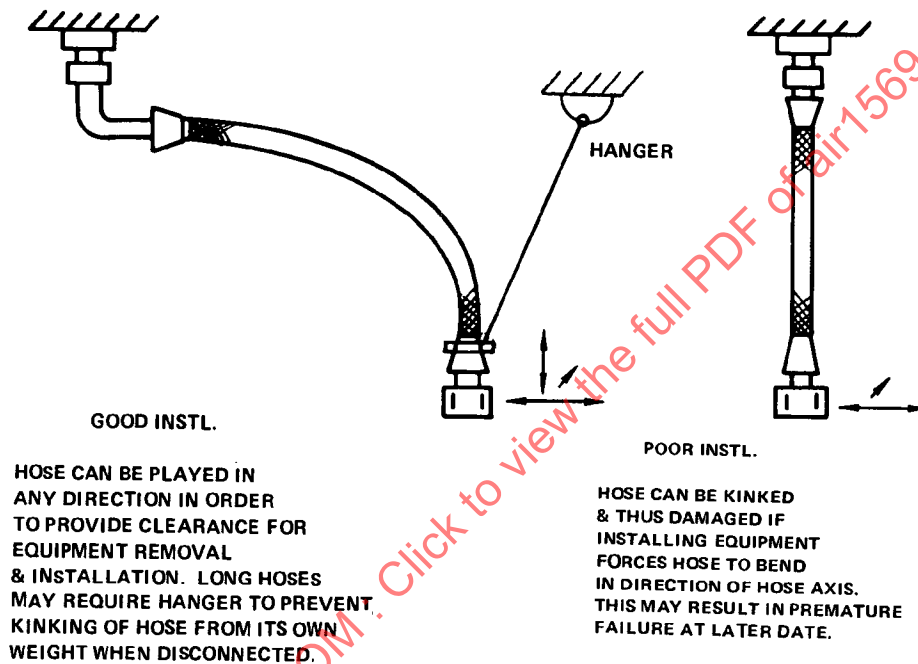

FIGURE 9
5.2.6 Service Disconnect Hoses: Hoses to equipment that require frequent removal should be installed in a manner to give maximum protection from damage during this operation. The shape of the hose should allow for non-operating motions involved in removal or installation of the units. A hanger can be installed to prevent kinking the hose when pulling it out of the way. (See Fig. 9).